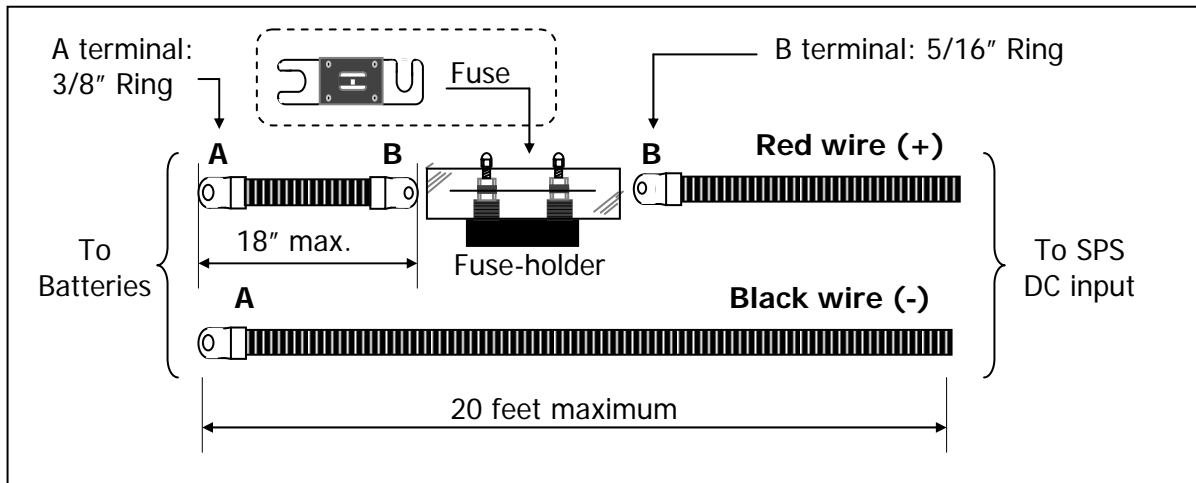

Figure 7: Inverter cable assembly
- Refer to Figure 7: Inverter cable assembly and Figure 8: DC wiring diagram.